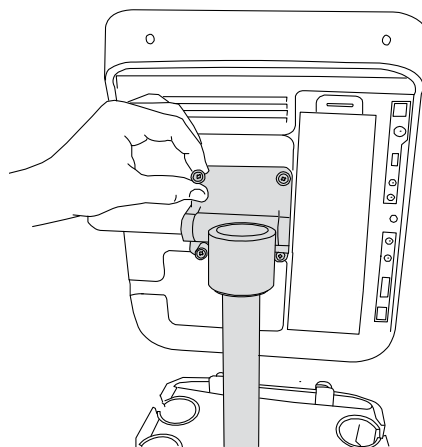

Figure 3 Turn screws on mounting plate
- 3 Turn the screw in each of the four corners into the system until the system is secure. Use a Phillips screwdriver if necessary. See Figure 3.
- 1 Support the ultrasound system, and loosen the screw in each of the four corners of the mounting plate. If necessary, use a Phillips screwdriver. See Figure 3.